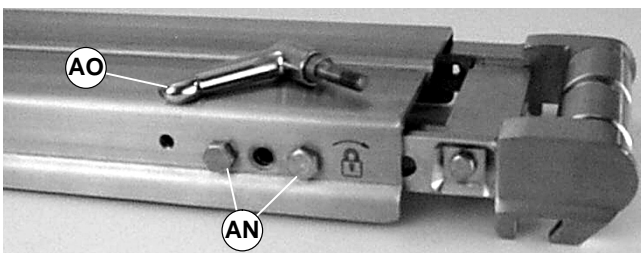

Figure 33
1. Remove handle (AO of Figure 33).
2. Remove two (2) screws (AN of Figure 33).